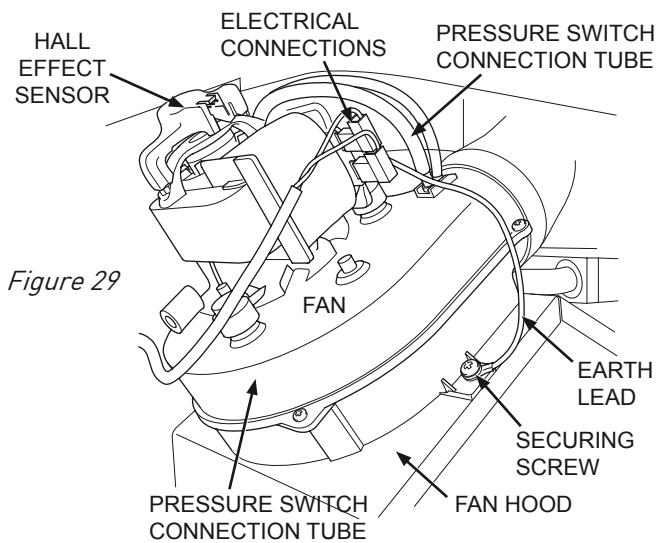

Figure 29
18.7 Disconnect the electrical leads and air pressure switch connection tube from the fan, remove the fan screws and withdraw fan from fan hood with its 56° bend. (Figure 29)